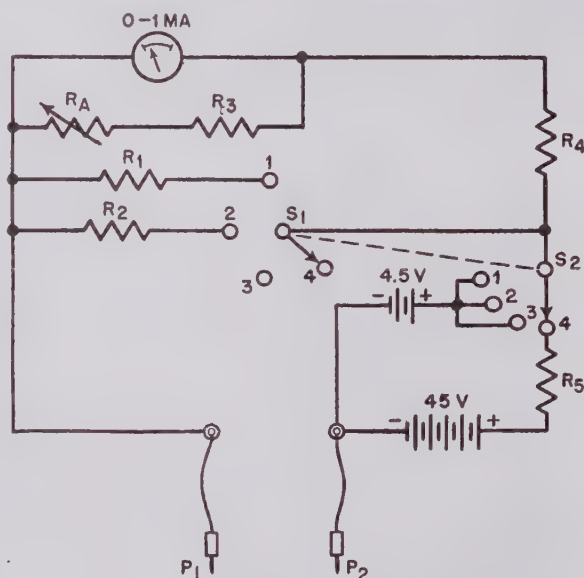

Figure 34. Multirange ohmmeter circuit. High-resistance range is powered by separate 45-volt battery.
g. The ohmmeter circuit in figure 34 uses two separate batteries, one of 4.5 volts and the other of 45 volts. A low range, two medium ranges, and a high range are available on this meter and selection of the different ranges is accomplished by a dual rotary switch, S_1 and S_2 . The two lower ranges and the medium-high range are powered by the 4.5-volt battery. The high range requires the 45-volt battery, which is automatically connected into the circuit when